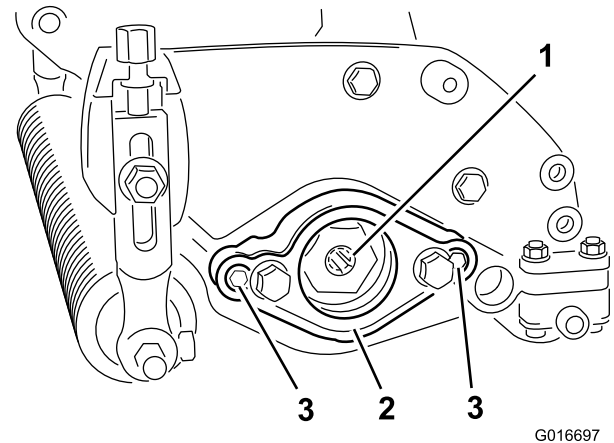

Figure 4
4. Remove the motor mount (Figure 4).
5. Apply grease to the inside diameter of the drive spline (Figure 4).